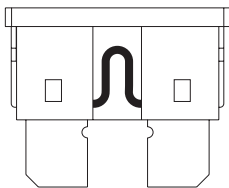

FIGURE 9. WORKING FUSE
- Examine the 5-amp charger fuse. If the fuse is blown the batteries will not charge. See figures 9 and 10.